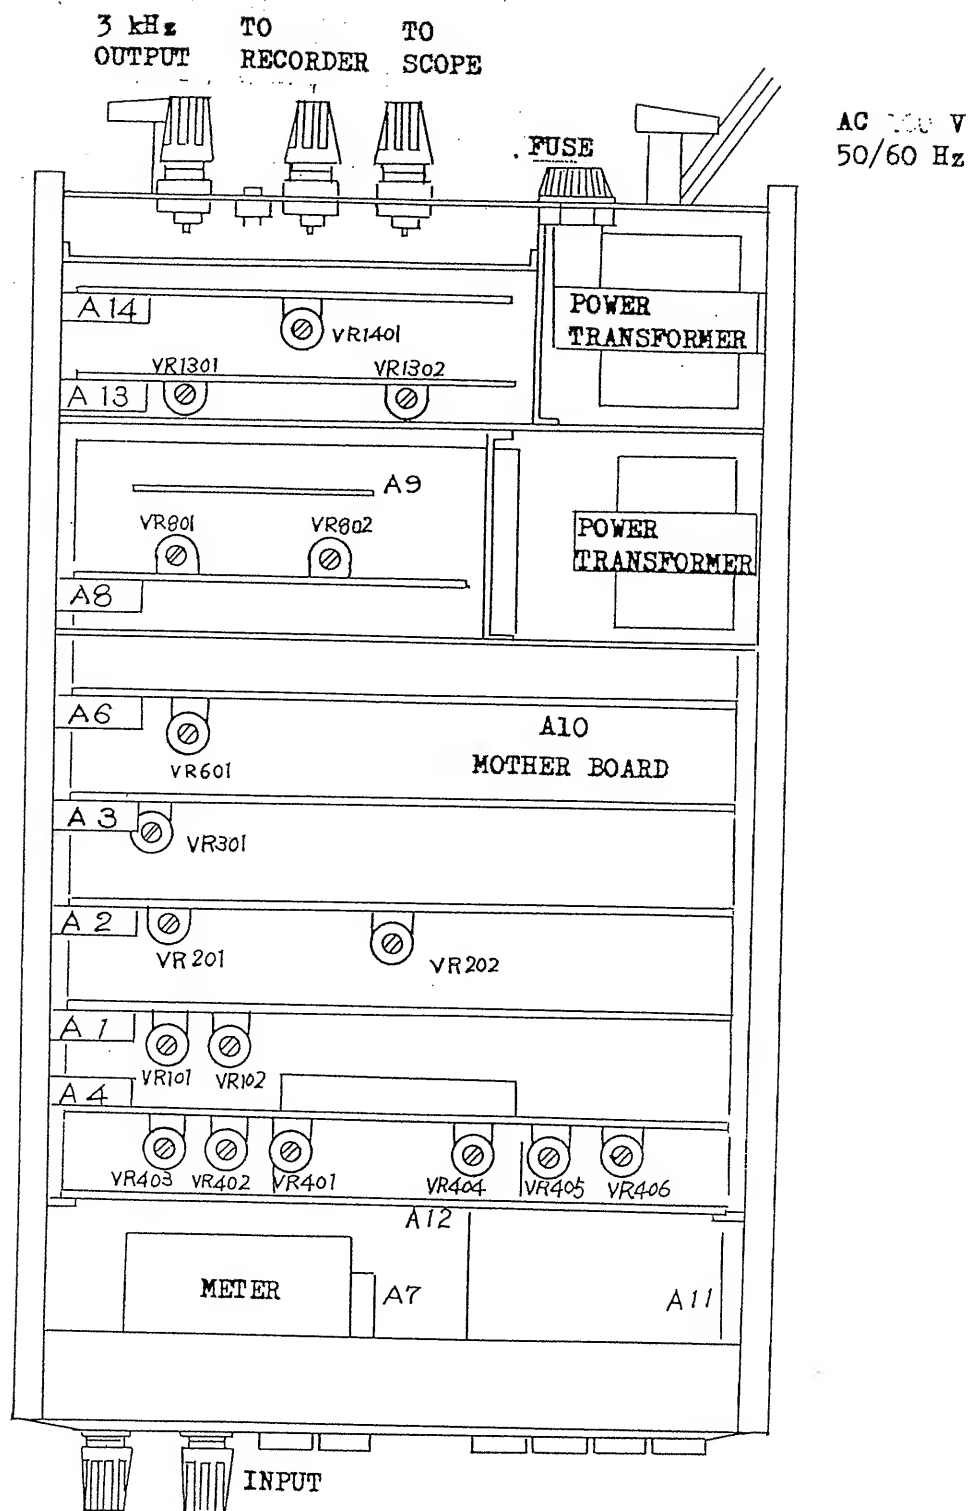

Fig. 5-1 Layout of components (top view)
The layout of the major components of the Wow & Flutter Meter is as shown in Fig. 5-1. Fourteen printed circuit boards as mentioned below are used in the Meter.
- (c) Refer to Fig. 5-1 and the schematic diagrams.